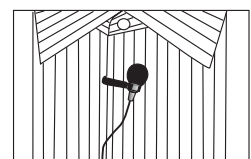

Figure 1
1. Attach a lavalier microphone to the proper position of a speaker's jacket or dress. (Figure 1)
1. Pass microphone through the hole in the center of mounting plate as (Figure 1).
1. Clamp the microphone to the ring of the drum. (Figure 1)